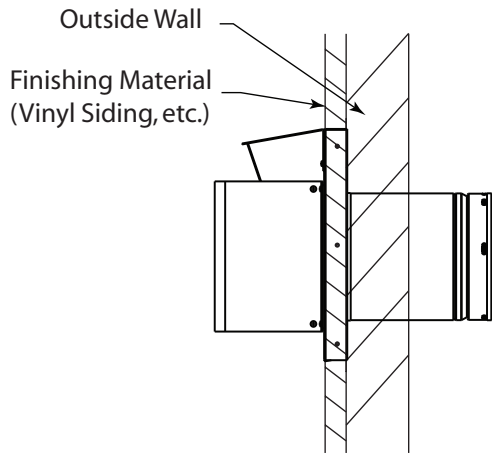

Figure 1 - Termination Cap on Wall
- Termination cap MUST NOT be recessed into a wall. Figure 1
- The flexible vent pipe cannot be intermingled with any of the rigid vent pipe sections. DO NOT connect two (2) sections of flexible vent pipe together to achieve a longer length.